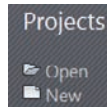

FIGURE 1.4 You can create a new model or browse for an existing one.
3. If you're firing up Revit for the first time, both of these rows will be blank. At the bottom of each row, you can choose to create a new model or open an existing one (see Figure 1.4).